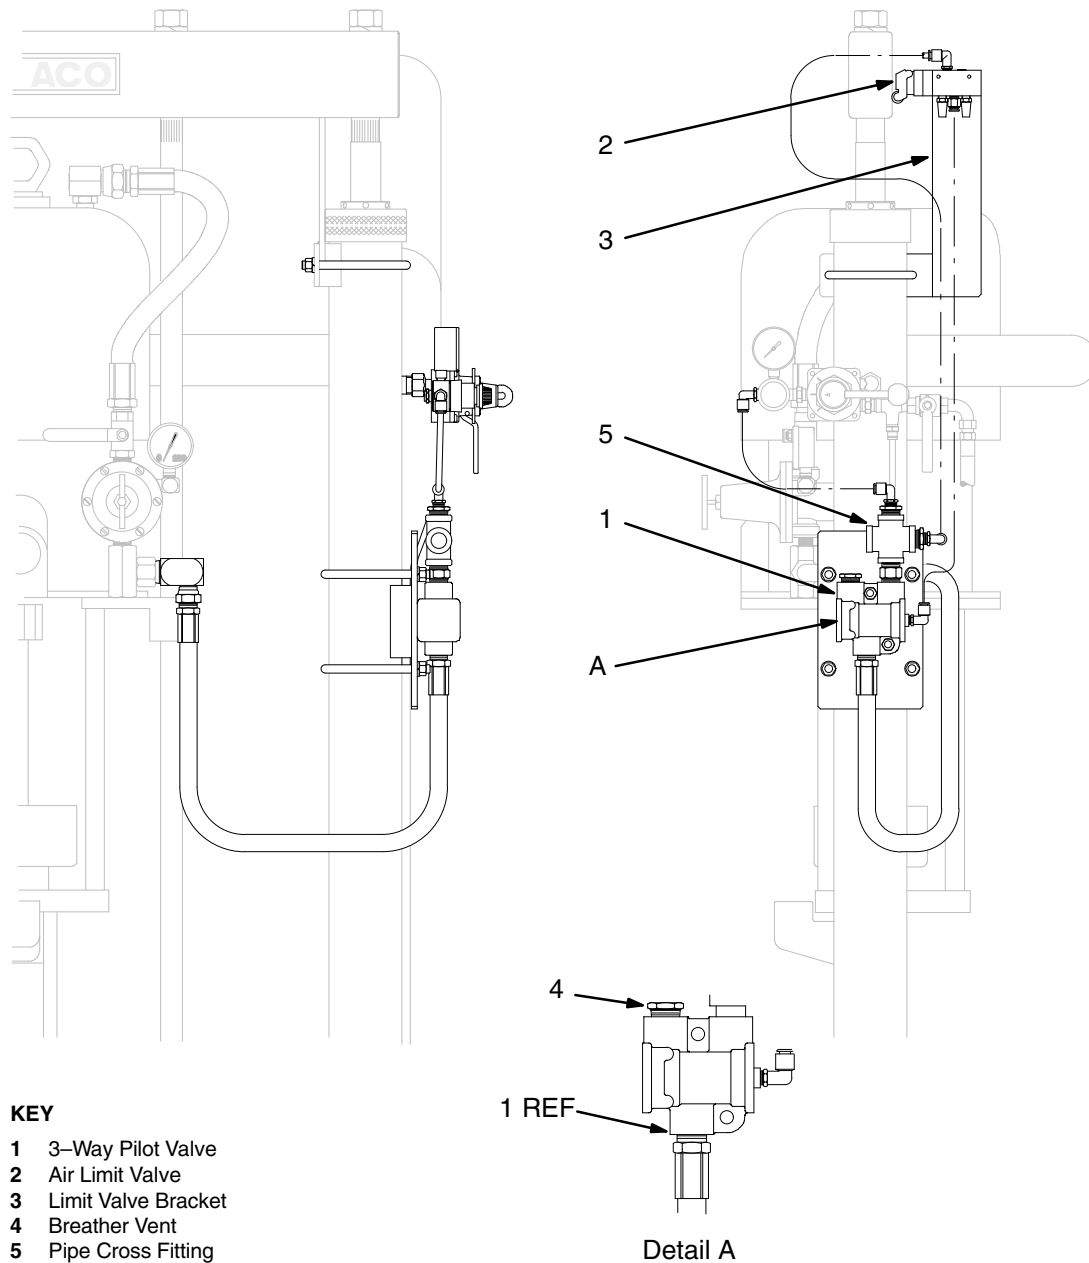

Fig. 5
Setup the low-level shutoff as shown in Fig. 5.
NOTE: The position of the air limit valve (2) on the ram determines when the ram air motor is turned on and off. During operation, this position can be adjusted as desired. See Fig. 5.